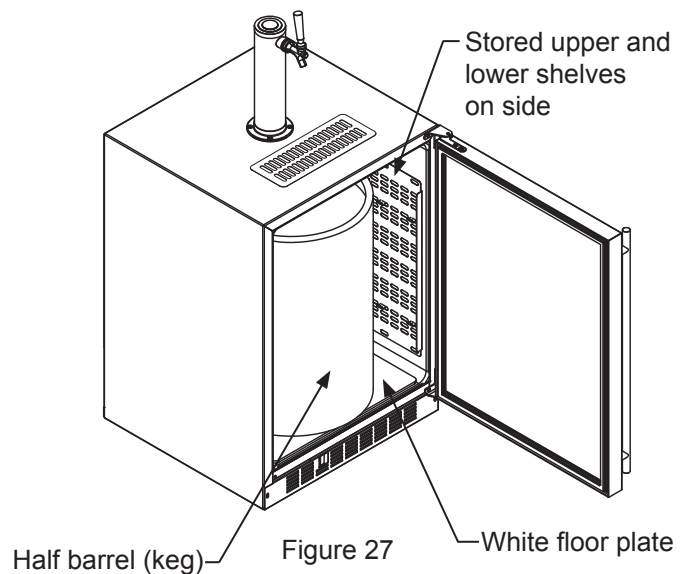

Figure 27
If you are using a half barrel (keg) or (2) 1/6 barrels, place the two shelves on the right side of the keg dispenser on the two mounting hooks for storage. (See Figure 27). Be sure the white floor plate is in the bottom of the interior compartment before positioning the barrel(s).